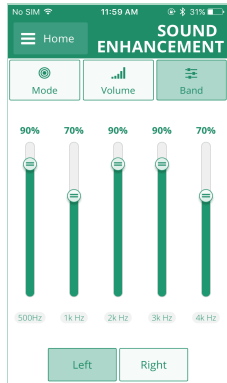

Fig. 24
**Band setting:** variable setting of Band for each side of instrument can only be done independently. (Fig. 24 & 25)